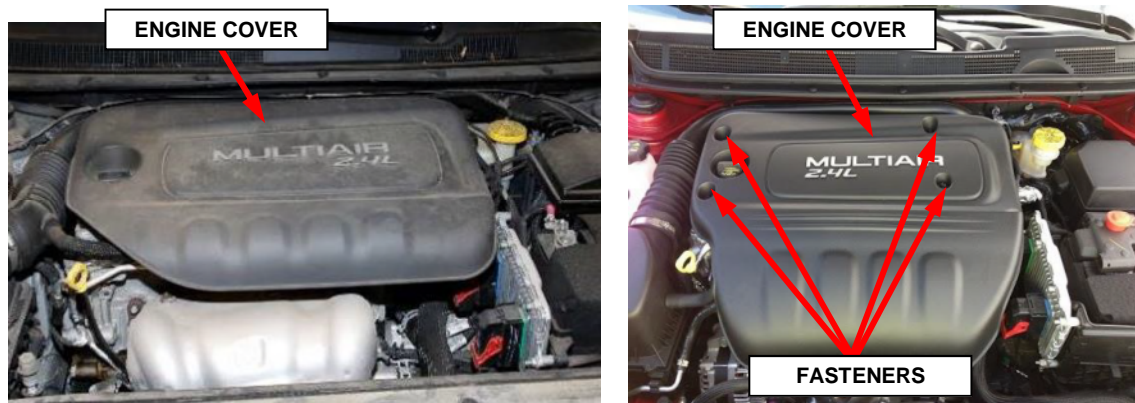

Figure 7 – Engine Cover
13. Release the engine cover from the ball studs if applicable or remove and **SAVE** the four fasteners if applicable, then remove and **SAVE** the engine cover (Figure 7).
50. Position the engine cover onto the ball studs. Using hands only, press down on the top of the engine cover to engage the ball studs (Figure 7).